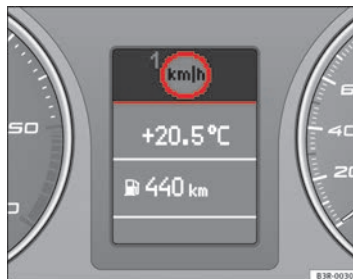

Fig. 56 Display: Speed warning function
The speed warning function will warn the driver if a pre-set maximum speed is exceeded. The system gives an audible warning signal if the set speed is exceeded by about 10 km/h. A warning symbol will also appear in the display ⇒ fig. 56.
The speed limit warning symbol  for speed warning 1 $\Rightarrow$ page 82, fig. 56 will appear in the display if you exceed the pre-set speed. It goes out again if the speed is reduced below the set speed limit.
- Press the CHECK button and hold it down until the symbol $\Rightarrow$ page 82, fig. 56 appears.